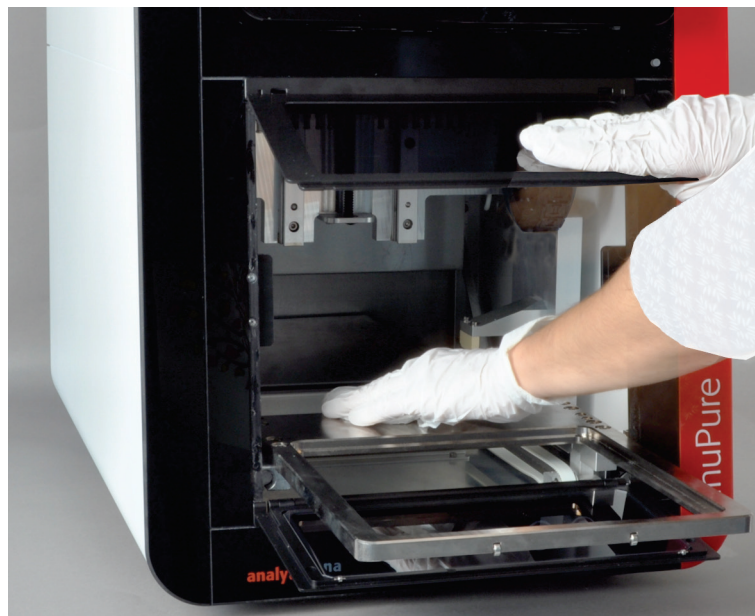

Fig. 24 Wiping disinfection with open front doors
- Wipe spilled samples or reagents immediately with an absorbent cloth or piece of paper. To do so, open the lower front door via the software or open the upper front door manually (see Fig. 24).